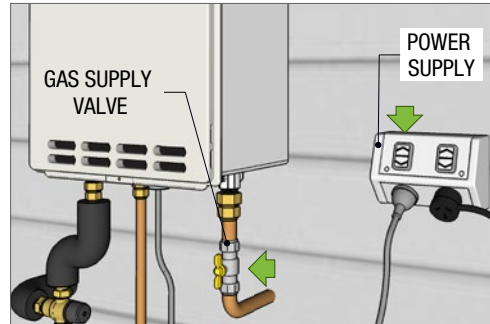

Fig 16
9. Switch ON the power to the gas booster and OPEN the gas supply valve to the gas booster (Fig 16)